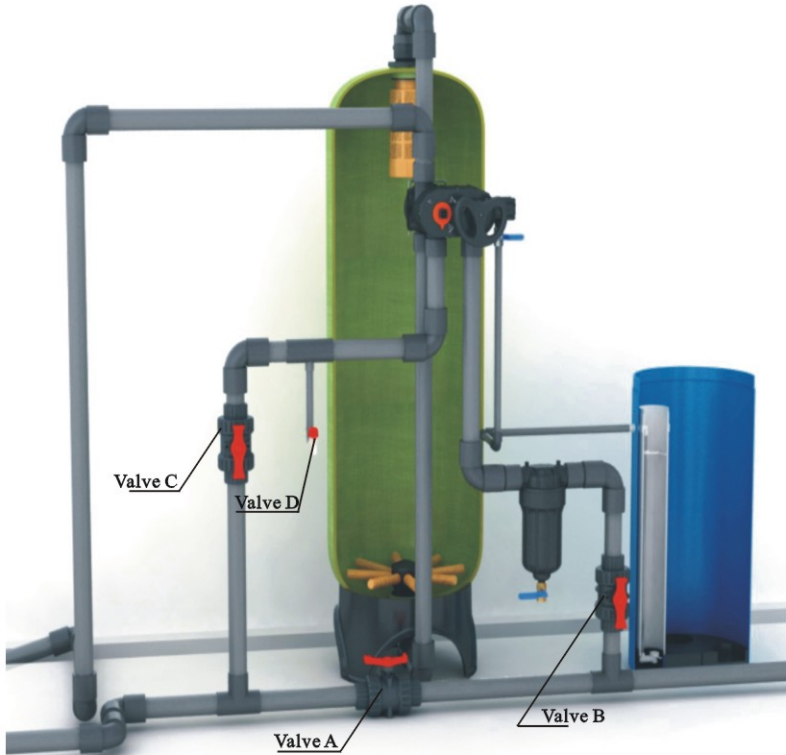
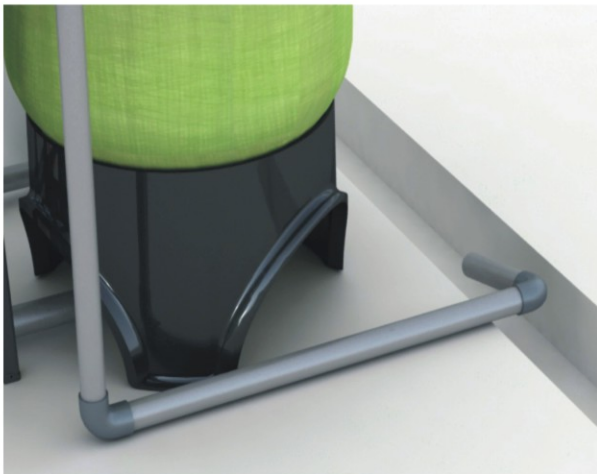

Figure1-1
Figure 1-2
①Install control valve
- a. As the Figure 1-1 shows , glue the riser pipe to the bottom strainer and put it into the mineral tank.
②Pipeline connection
- a. As Figure1-2 shows, install a disc filter in the inlet.
- a. Install sampling valves in inlet, outlet and pipeline A.B.C. as showed in Figure 1-1.
- ③ Install drain pipeline (If no special requirement, the standard DLFC is No.7703)
- d. Glue the drain outlet with UPVC (DN40). Put drain outlet pipe to sewer as showed in the Figure 1-2.
<ul style="list-style-type: none">● Control valve should be higher than drain outlet, and be better not far from the drain hose.● Be sure not connect drain with sewer, and leave a certain space between them, avoid wastewater be absorbing to the water treatment equipment, such as showed in the Figure1-2.
As Figure1-2 shows, use UPVC (DN20) to connect brine valve with brine line connector.